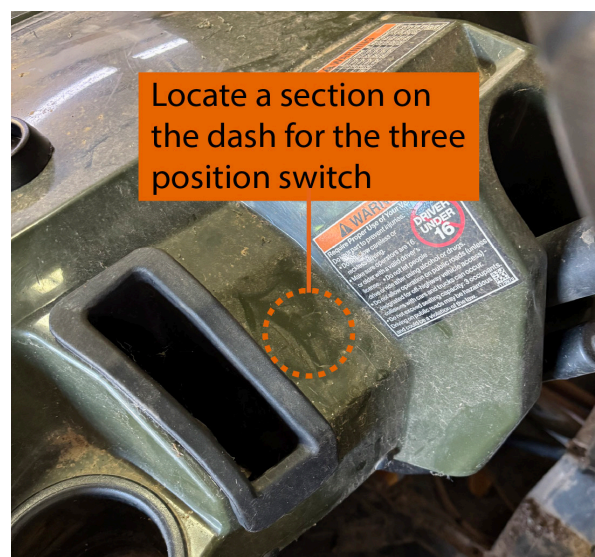

FIGURE 7
21. Locate a spot next to the steering column for the switch. FIGURE 7